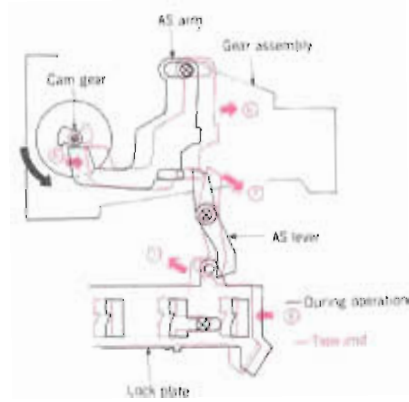

Figure 18
- 3) When the AS Arm slides into the position shown in black in Figure 18, it engages with the AS cam under the Cam Gear and slides in the direction of arrow ⑥ .
- 4) When the AS Arm slides into the position shown in color, the AS Lever rotates in the direction of arrow ⑦ and makes the Lock Plate move in the direction of arrow ⑧ . This sliding of the Lock Plate causes the same conditions as when the Stop button is depressed, and each slider goes into the stop mode.